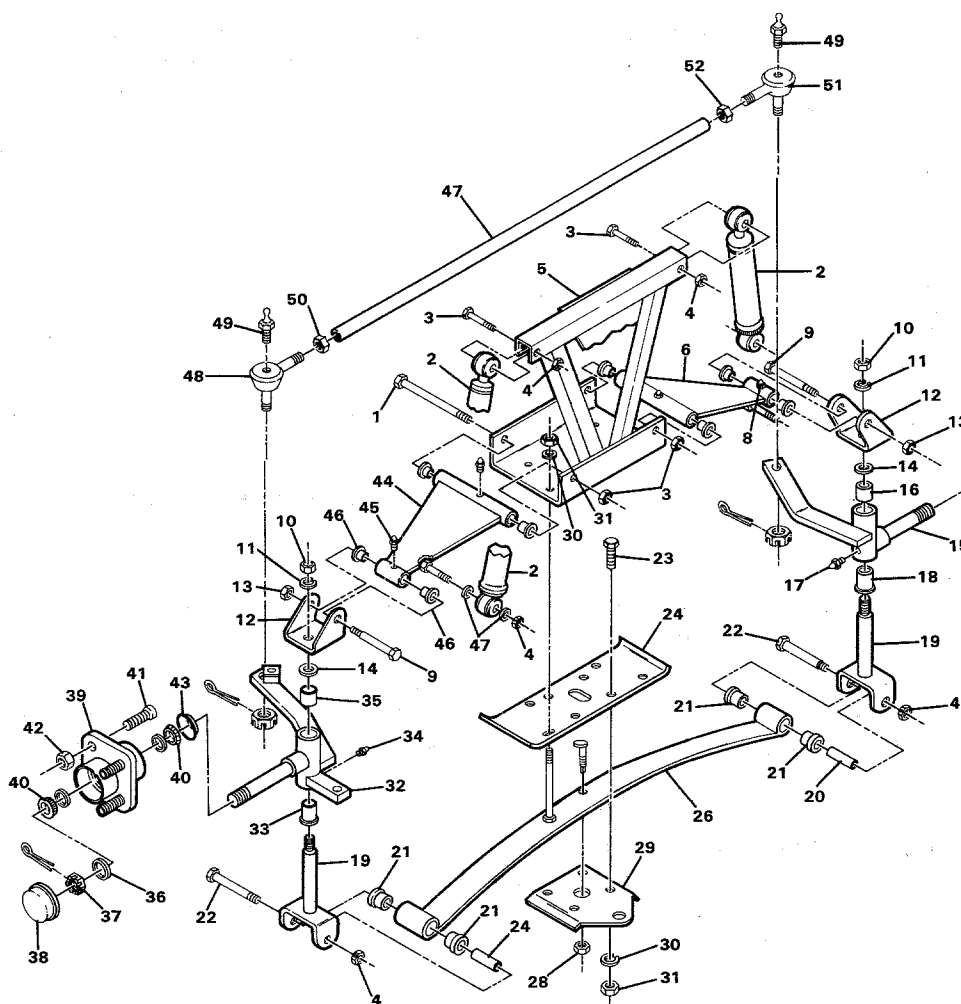
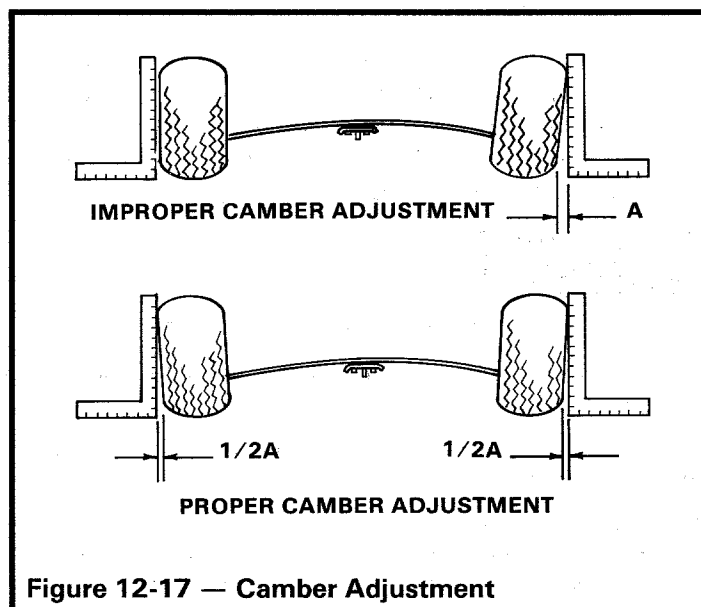

Figure 12-16 — Front Suspension Assembly
Figure 12-17 — Camber Adjustment
1. Check each front wheel with a framing square. There should be an equal space between the tire and the framing square at the bottom of both tires (Figure 12-17).
2. Loosen the four bolts (23) which secure the leaf spring (26) to the bottom spring plate (29) (Figure 12-16).
3. Loosen the hex nut (28) on the adjustment eccentric (27) in the center of the spring.
4. Rotate the eccentric (27) with a 7mm wrench to shift the leaf spring (26) to provide equal space between tire and framing square on each side (Figure 12-17).
5. After aligning both front wheels, torque the four spring retaining bolts (23) to 20-25 ft.-lbs. and roll vehicle backward one full tire revolution and recheck camber.
6. Torque the hex nut (28) on the adjustment eccentric (27) to 10 ft.-lbs.
3. Remove nuts (4) and bolts (22) from each king pin clevis (19) (**Figure 12-16**).
4. Remove four bolts (23), four nuts (31), four lockwashers (30) and bottom spring plate (29).
6. Check condition of rubber inserts (21) and spacer (20) and replace if worn or damaged.
3. Remove nut (10) and lockwasher (11) from top of king pin (19) (**Figure 12-16**).
4. Raise "A" frame clevis (12) from king pin (19).
5. Remove thrust washer (14).
7. Remove bolt (22) and nut (4) from king pin clevis.
8. Remove king pin (19).
10. Check condition of bushings (33) and (35) and replace if necessary, by removing old bushings and pressing in new bushings. Ream bushings to .750 to .752 in. diameter. Reamer should be long enough to ream both bushings from one end.
2. Install king pin clevis over leaf spring eye and insert bolt (22) and install nut (4). Torque to 15-18 ft.-lbs. (**Figure 12-16**).
3. Install steering spindle on king pin. Install thrust washer (14), "A" frame clevis (12), lockwasher (11) and nut (10). Torque to 25-30 ft.-lbs.